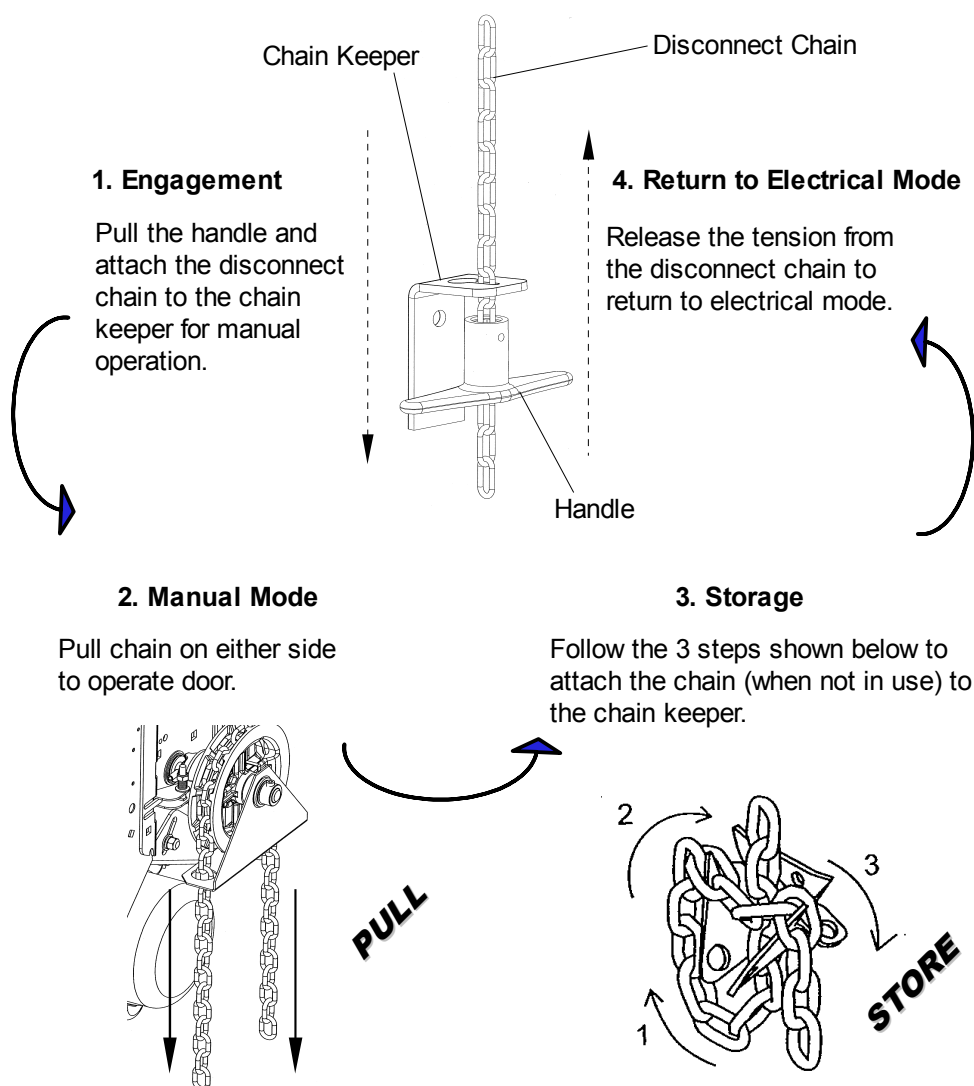

Figure 16 - Hoist Engagement and Hoist Operation
- engage the manual hoist mechanism, see Figure 16